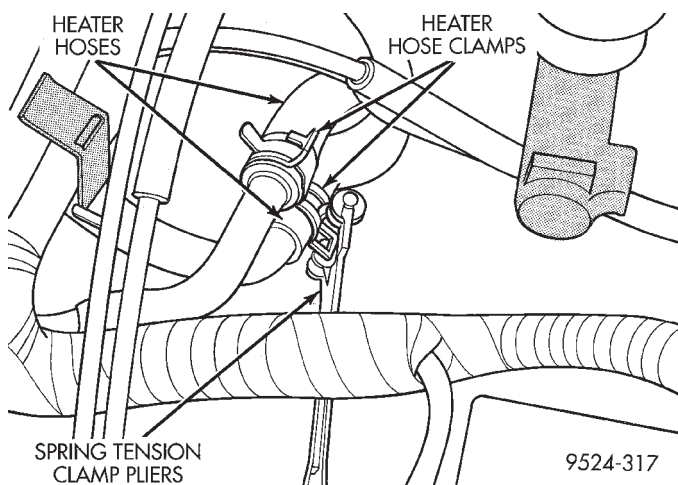
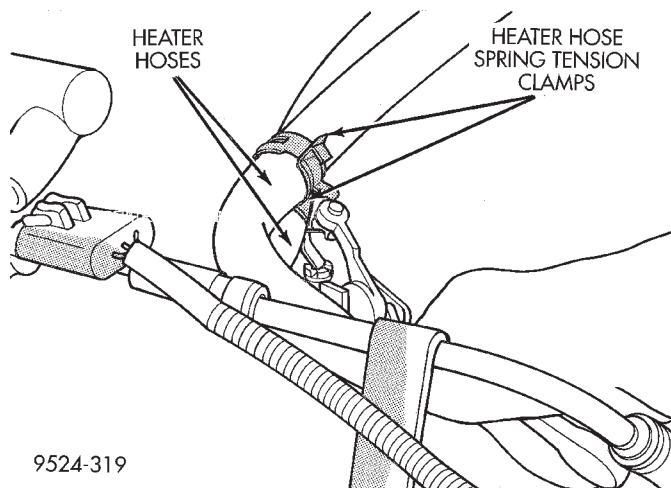

**Fig. 55 Heater Hose Connection At Engine**
**Fig. 56 Heater Hose Connection At Heater Core**
- (1) Drain engine cooling system. Refer to Group 7, Cooling System.
- (2) Using spring tension clamp pliers, remove clamps at each end of hose to be removed (Fig. 55) and (Fig. 56).
- (3) Carefully rotate hose back and forth while tugging slightly away from connector nipple.
- (3) Remove intake manifold plenum. Refer to Group 11, Exhaust System And Intake Manifold for service information.
- (4) Using spring tension clamp pliers, remove clamp at heater core end of hose to be removed (Fig. 56).